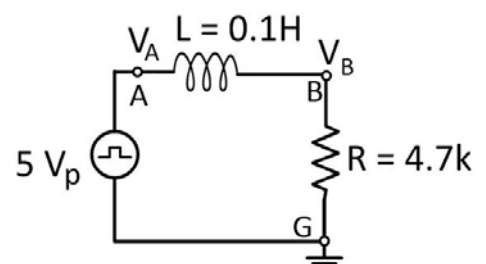

Fig. 2
1. Assemble the circuit shown in Fig. 2. Connect Ch1 and Ch2 probes of CRO to node A and node B, respectively. Keep using the dc coupling mode of the CRO.